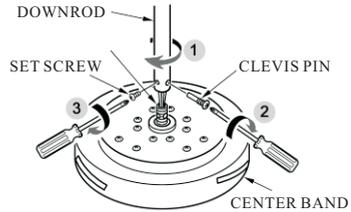

FIG. 3
3. Align the clevis pin holes in the downrod with the holes in the shaft. The clevis pin must pass through the holes in the shaft and the downrod. Then tighten set screws and clevis pin against the down rod. (see fig 3)